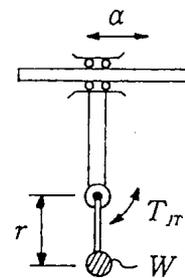

Fig. 2-17 Interference torque ii
- (ii) Also in combination of linear movement and revolving shaft movement, acceleration (α) of linear shaft is applied to the offset load (W) of the revolving shaft and torque (T_r) of the revolving shaft which is in proportion to the offset distance (r) occurs. (Fig. 2-17)